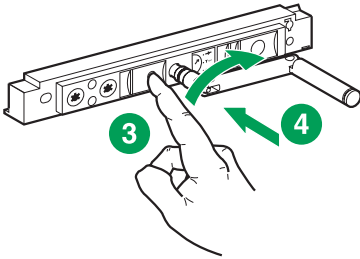
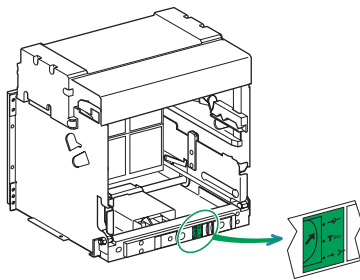

Fig. 38
Fig. 39
- Turn the crank (see Fig. 38) until "connected" position be indicated (see Fig. 39).